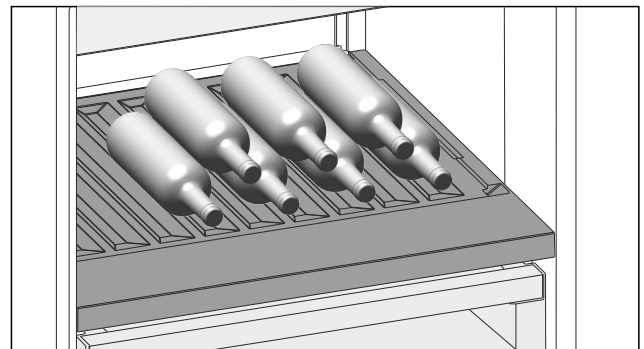

Fig. 85
- ▶ Insert the bottles facing backwards towards the rear wall. (see Fig. 85)